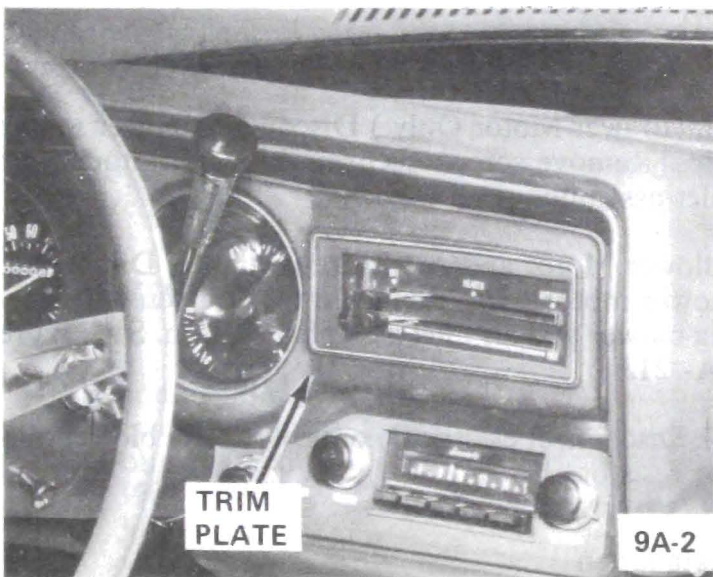

Figure 9A-2 Trim Plate Location
1. Remove instruments trim plate by pulling rearward and unsnapping from instrument panel. See Figure 9A-2.
2. Remove 4 heater control attaching screws. See Figure 9A-3.